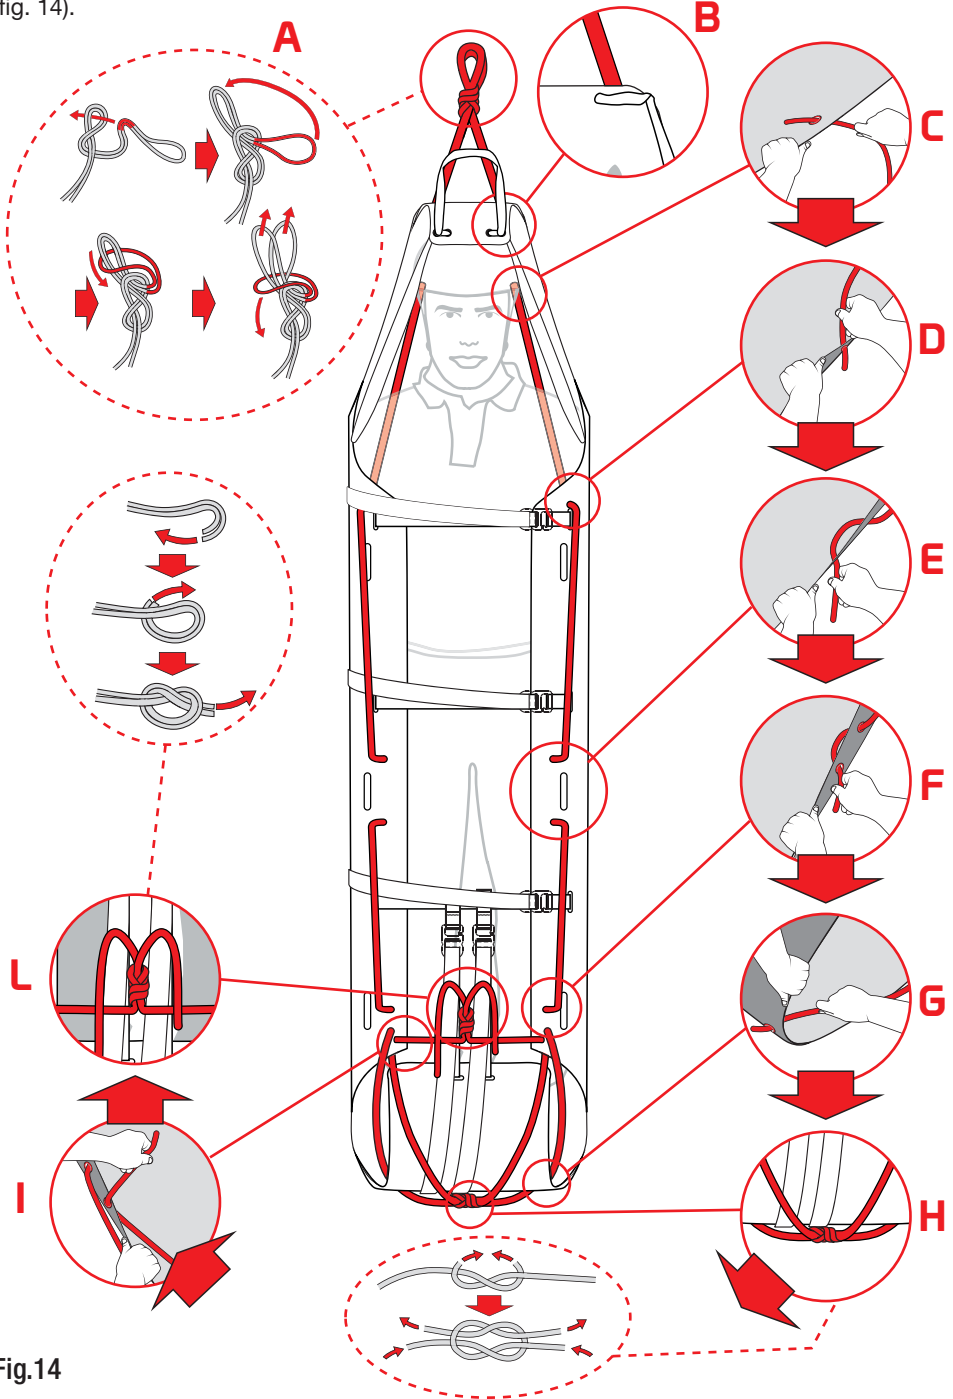

Fig.14
c) lifting/lowering or vertical lowering: insert the rope (H) in the holes A8 in the support surface (fig. 14).